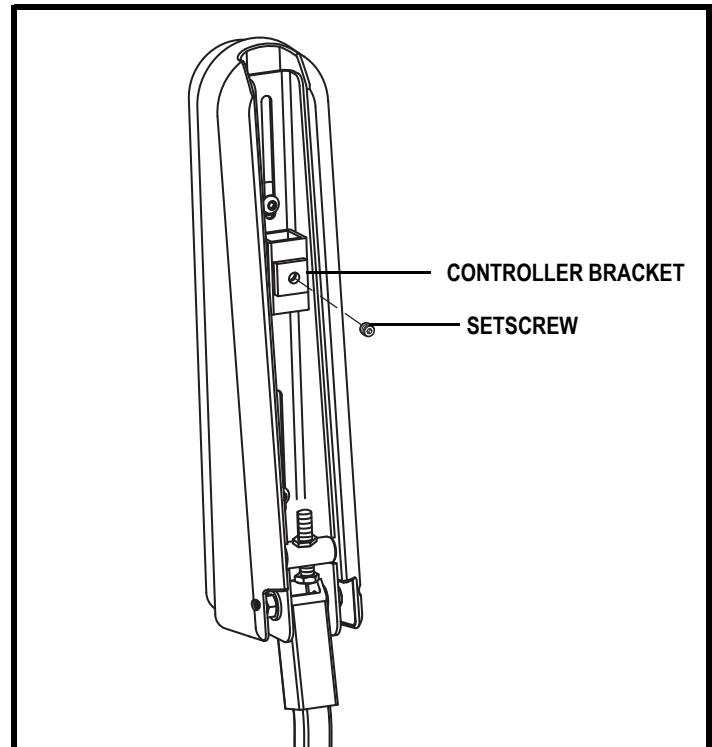

Figure 18. Underside of Armrest
2. Loosen the setscrew on the controller bracket. See figure 18.